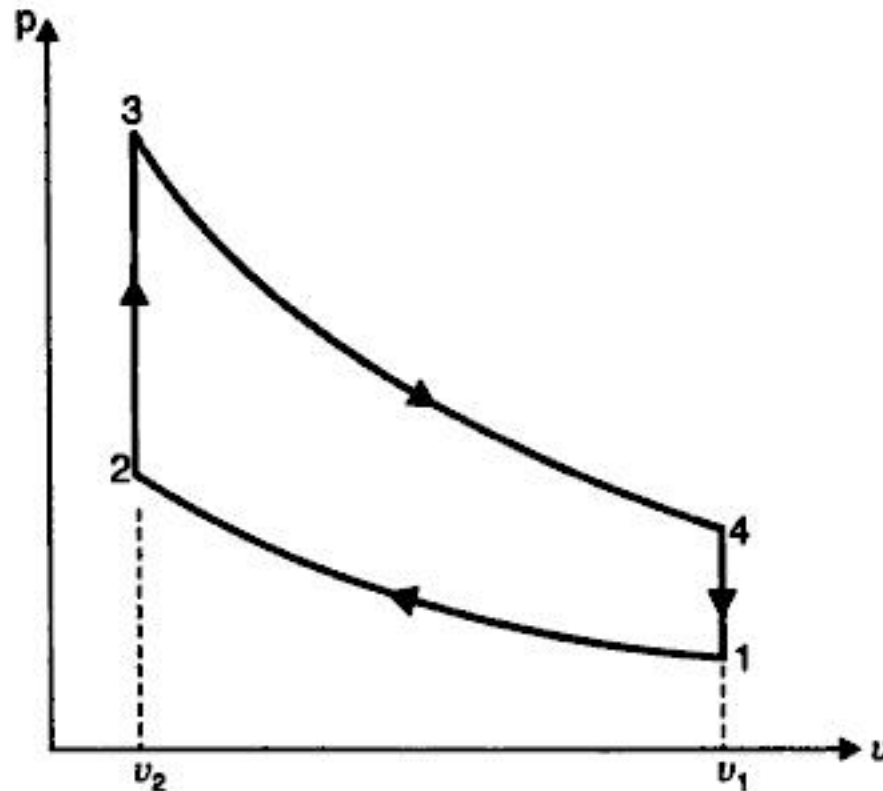

Fig. 3.13
**Solution.** Refer Fig. 3.13.
**Solution.** (a) Refer Fig. 3.13 (Example 3.14).